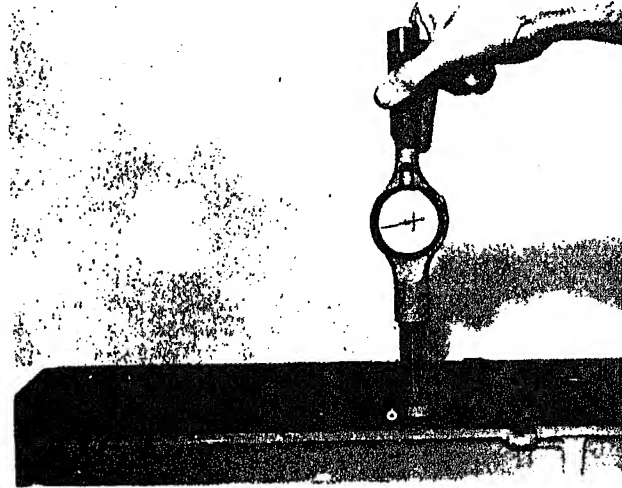

Fig. 1-2-1. Measuring liner bore
5. Check worn liners with dial bore gauge, Fig. 1-2-1. If liners are worn more than 0.004 in. [0.1016 mm] in excess of new liner maximum diameter, replace or hone to next oversize. See Table 1-2-1 for new-liner dimensions. Pistons for oversize liners are available in 0.020, 0.030 and 0.040 in. [0.5080, 0.7620 and 1.0160 mm] oversizes.